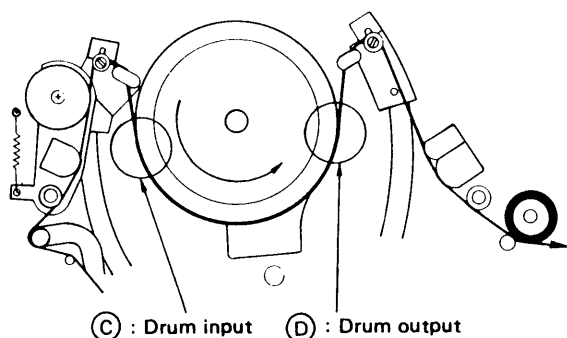
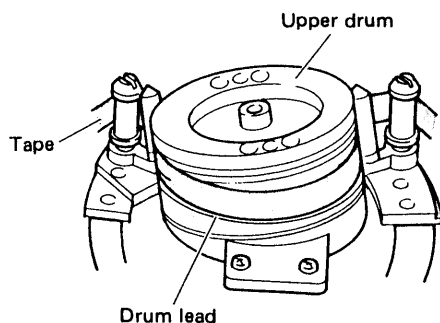

Fig. 2-23 Tape transport check
Fig. 2-24 Drum lead check - 2
4. During Play mode, observe tape at the input and output portions (C and D in Fig. 2-23) of the head drum lead. Confirm that the tape slips neither upward nor downward with respect to the lead as shown in Fig. 2-24.